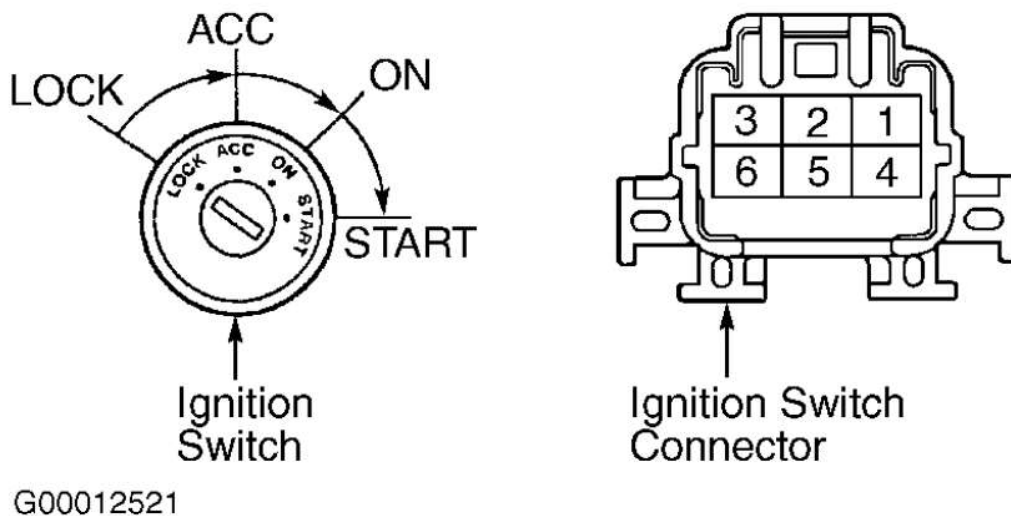

Fig. 3: Ignition Switch 6-Pin Connector (Celica, ECHO & MR2)
1. Deactivate air bag system. See AIR BAG RESTRAINT SYSTEMS article. Disconnect negative battery cable. Remove driver's lower instrument panel cover. Remove upper and lower steering column covers if needed. Locate ignition switch wiring harness 6-pin connector. See **Fig. 3**.